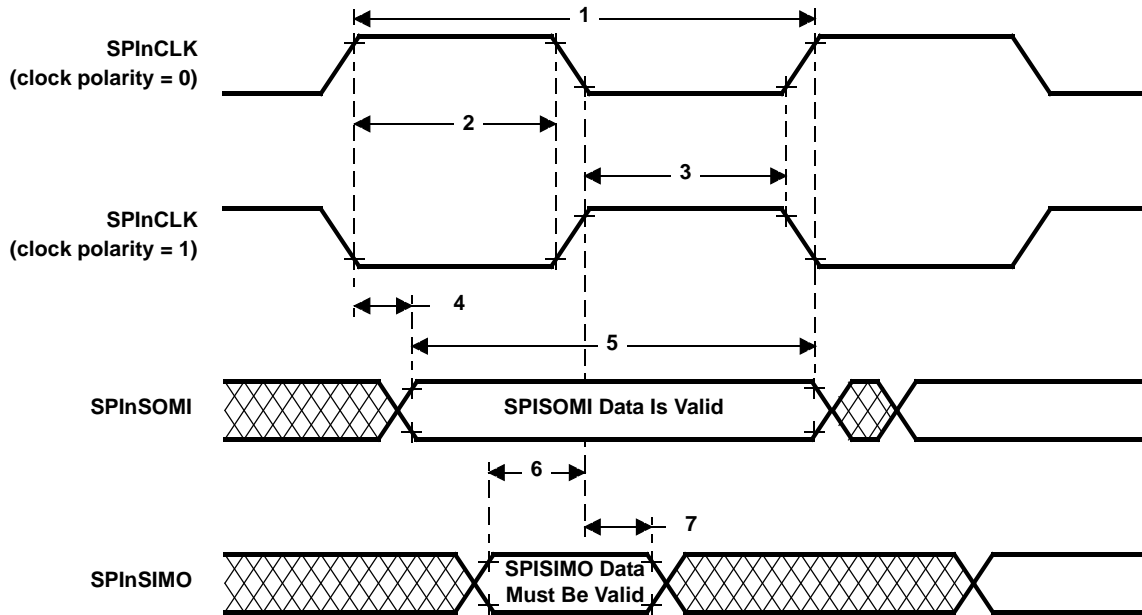

Figure 13. SPI Slave Mode External Timing (CLOCK PHASE = 0)
**SPIn slave mode external timing parameters (CLOCK PHASE = 0, SPInCLK = input, SPInSIMO = input, and SPInSOMI = output)†‡§¶ (see Figure 13)**